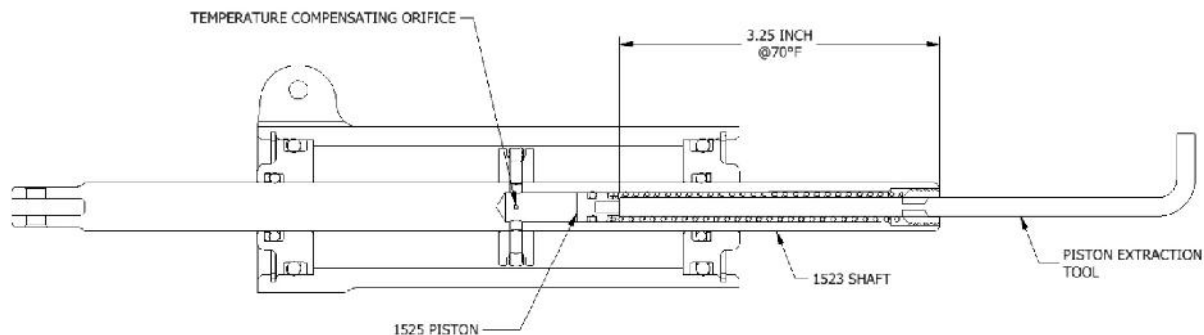

FIGURE 2 – FLOATING PISTON LOCATION
- 7) SLOWLY push or pull the temperature compensating piston to the 3.25" (or other dimension per Figure 3 charts) from the end of the shaft using the piston extraction tool. (See Figure 2) This must be done very slowly, as oil must pass through the small temperature compensating orifice.
- 14) Push the floating piston in to the 3.25" dimension (or other dimension per Figure 3 charts) from the end of the shaft using the piston extraction tool. (See Figure 2) Fluid and any remaining air should be escaping from the Fill Plug that was left untightened.